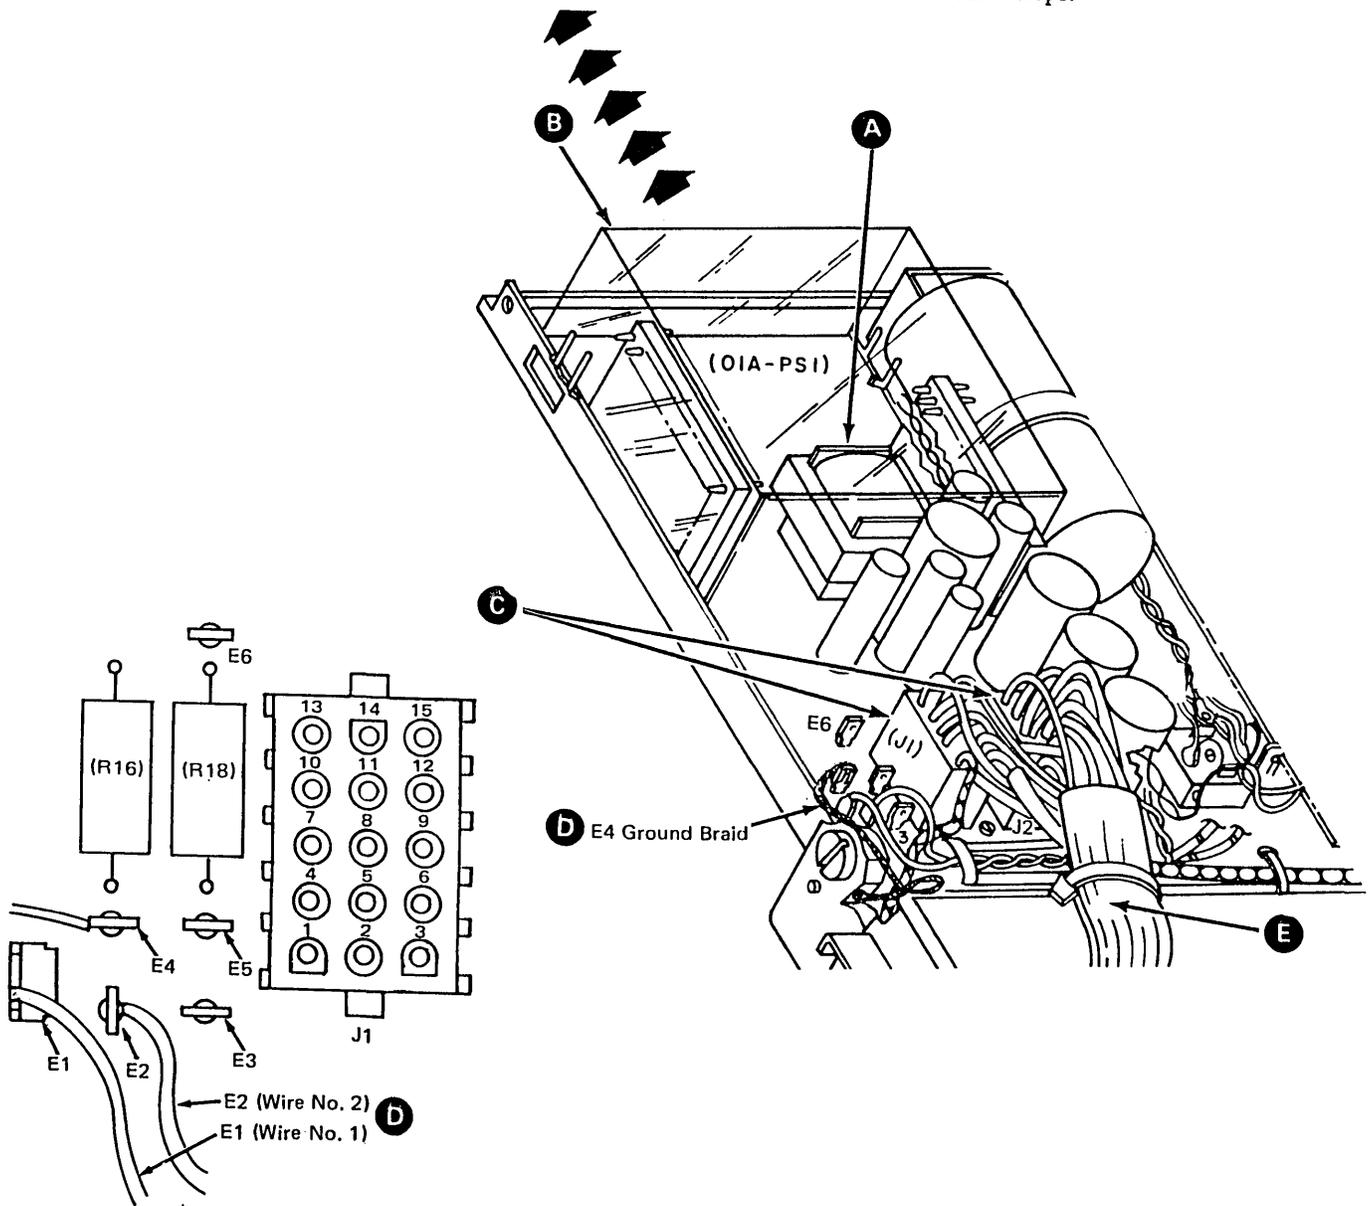

Figure 4-9. TSR Power Supply
4.10 TSR Power Supply, Removal and Replacement (Figure 4-9)